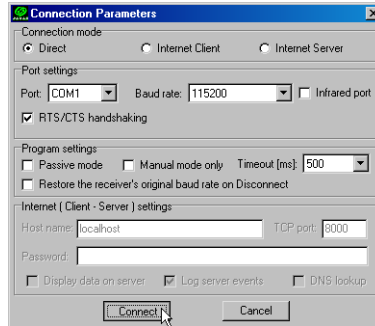

Figure 2-10. Bluetooth and RS-232 Connection Parameters
- For Bluetooth or RS-232 connections (Figure 2-10)